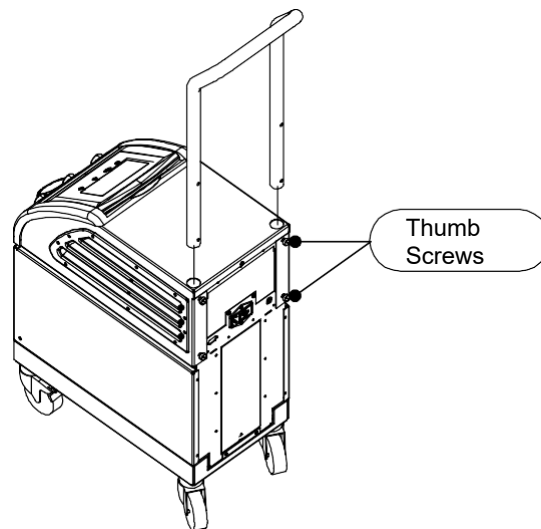

Figure 13: Handle Assembly
- b. Slide the two ends of the handle into the holes in the top cover (pay attention to the direction of the curve in the handle) until the handle is inserted all the way in (see Figure 13).